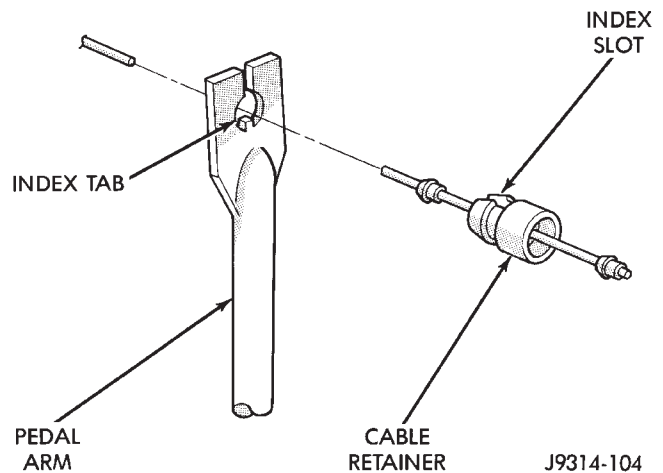
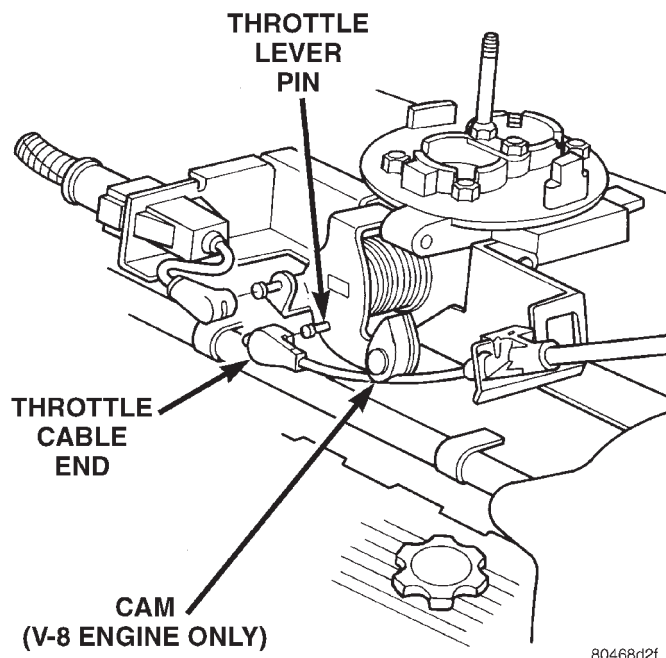

Fig. 37 Index Tab and Slot
Fig. 38 Throttle Cable at Throttle Body—Typical (V-8 Shown)
- (1) Position pedal/bracket assembly over the two dash panel mounting studs and install retaining nuts.
- (2) Tighten nuts to 7 N·m (65 in. lbs.) torque.
- (3) From inside the vehicle, hold up the accelerator pedal. Install the throttle cable core wire and plastic cable retainer into the upper end of the pedal arm. The plastic retainer is snapped into the pedal arm. When installing the plastic retainer to the accelerator pedal arm, note the index tab on the pedal arm (Fig. 37). Align the index slot (Fig. 37) on the plastic cable retainer to this index tab.
(4) Remove air tube at top of throttle body.
(5) Operate throttle body lever (by hand) to full open throttle position. Slip cable end rearward from pin on throttle lever (Fig. 38).
(1) Snap cable end onto lever pin (Fig. 38). On models with V-8 engines, be sure cable is routed **under** plastic cam (Fig. 38).
(2) Connect cable to throttle body mounting bracket (push down and lock).
(3) Install remaining cable housing end into dash panel opening (snaps into position).
(4) Install ball end of cable wire through hole in pedal arm. Install plastic cable retainer. The plastic retainer is snapped into pedal arm. When installing retainer to accelerator pedal arm, note index tab on pedal arm (Fig. 37). Align index slot (Fig. 37) on plastic retainer to this index tab.